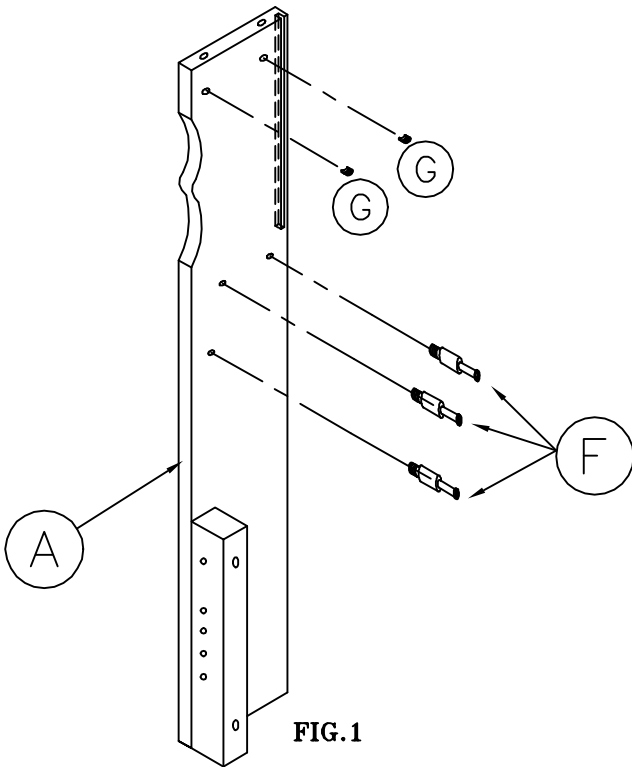
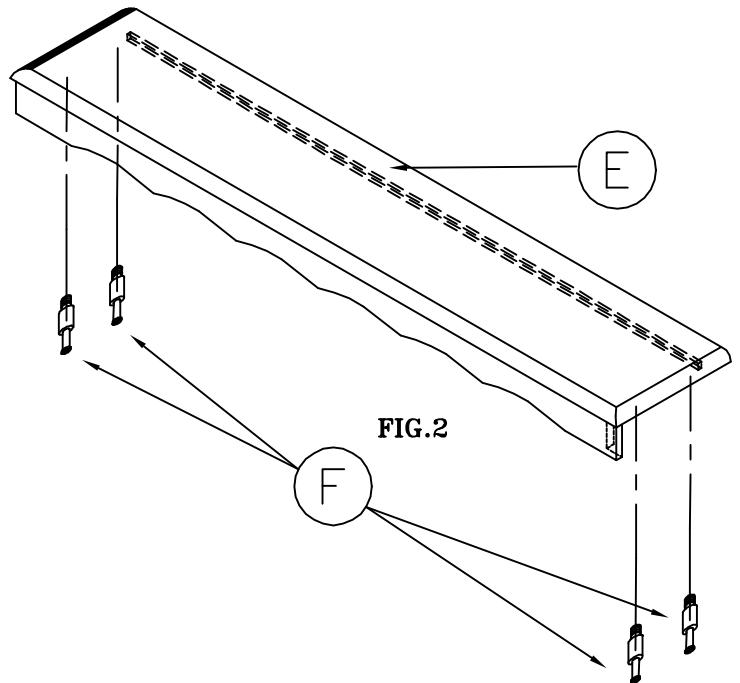

FIG. 1
FIG. 2
Do not over tighten.(See Fig.1 & Fig.2)
- Insert locking housings (G) into posts (A & B). (See Fig. 1)